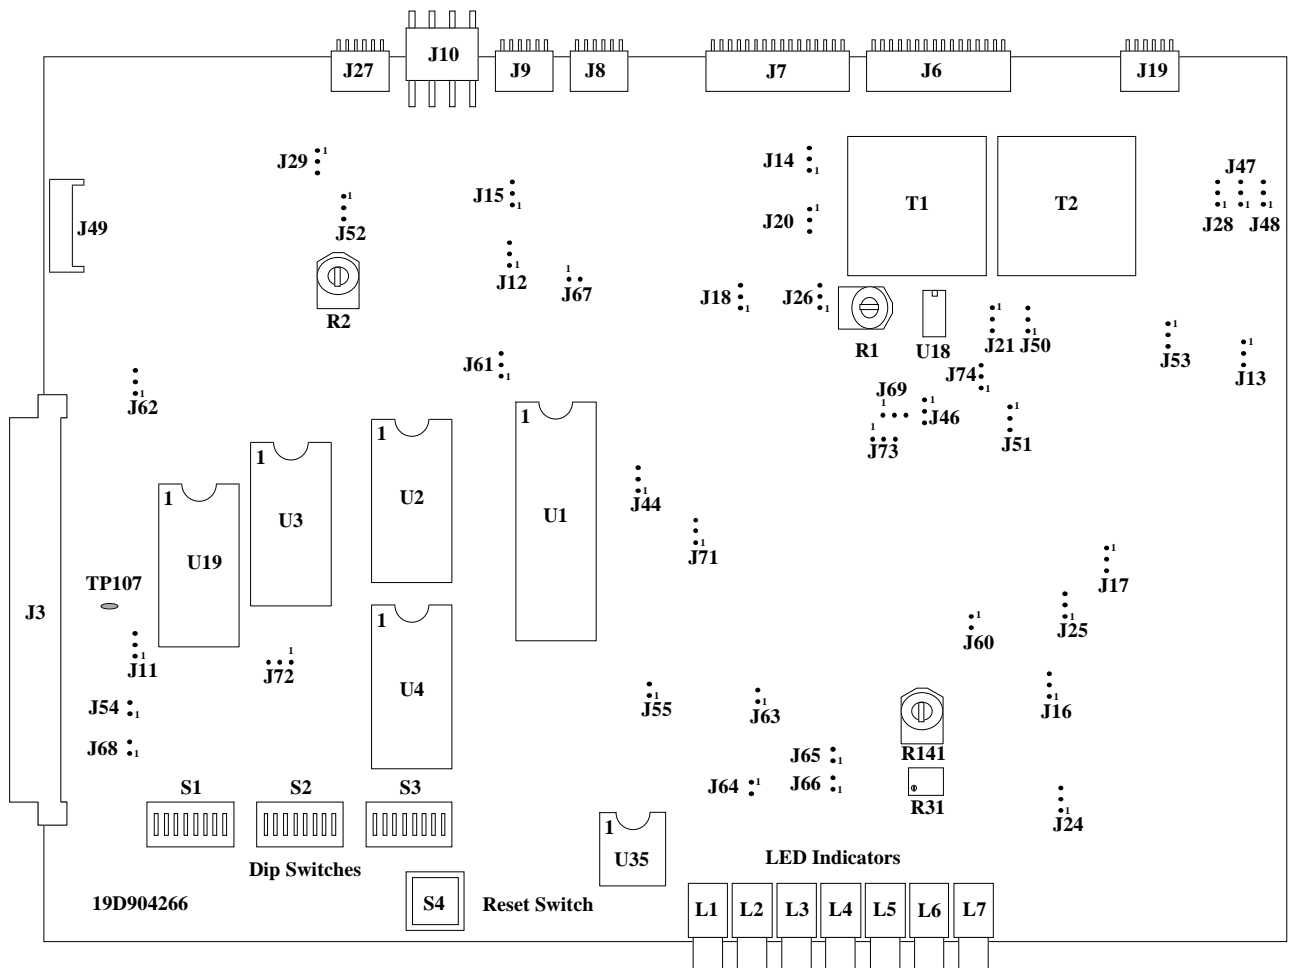

Figure 7 - Station GETC (19D904266) Jumper Locations
1. Refer to the Station GETC Configuration Manual LBI-38988 and, if possible, make a full size transparency of the station GETC Jumper Location Diagrams. If the LBI is unavailable, refer to Figure 7 and Table 8.
Three DIP switches on the GETC Logic Board must be set for proper repeater operation. These switches are located on the GETC Logic Board as shown in Figure 7. In the MASTR III repeater, S1-1 through S1-7 and S2-1 thru S2-4 are not used. S3-1 through S3-5 select the channel number. The remaining switch positions depend on the function of the overall system (i.e. with or without Site Controller or conventional Failsoft system).